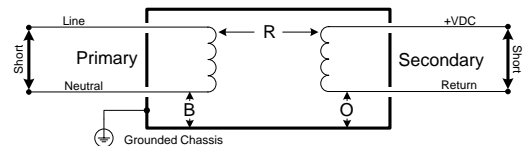

Figure 2: Power Supply Configuration
3. Short the primary pins, Line and Neutral, together. Short all secondary pins, VDC output, together. See Figure 2.